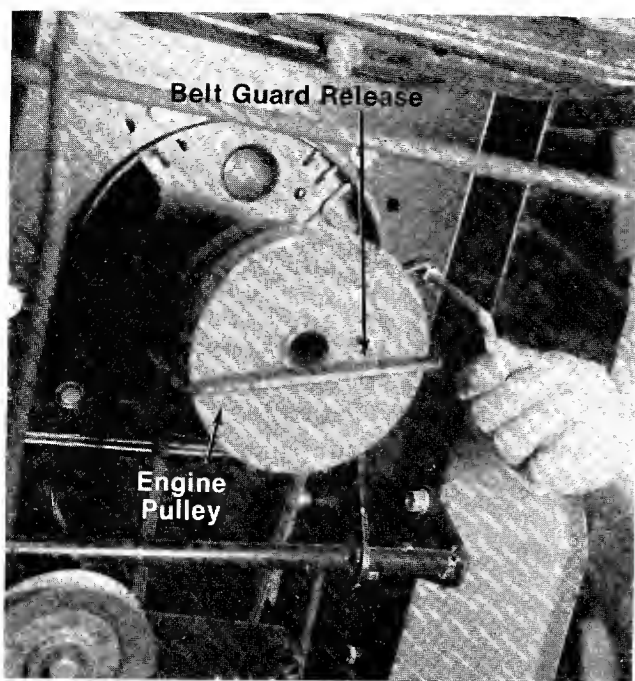

FIGURE 17.
- Unscrew the belt guard release next to the engine pulley. See figure 17.